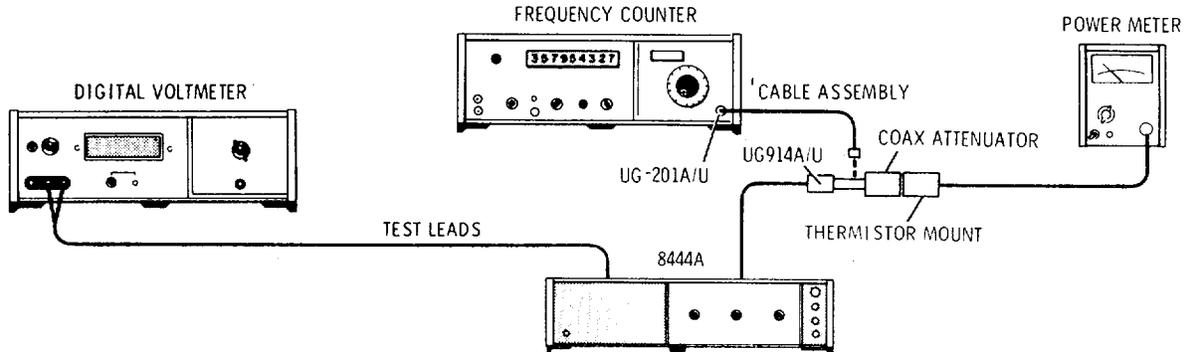

Figure 5-2. 1.55 GHz LO Power Level and Frequency Check and Adjustment Test Setup
4. With test setup as indicated in Figure 5-2, connect Power Meter to Isolator AT3 J2 via 08555-60076 cable, .10 dB attenuator and UG 914A/U adapter.